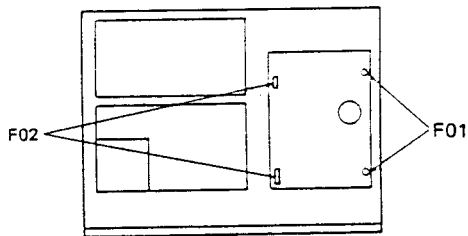

Fig. 2.2
- (1) Refer to Fig. 2.2 and Fig. 2.3.
- (2) Remove the Top Cover Ass'y and the Bottom Cover Ass'y referred to in item 2.1.
- (3) Remove F01 and F02 (P.C.B. Support) and five connectors (CN-101, CN-102, CN-103, CN-202 and CN-203), then F03 (Servo P.C.B. Ass'y).